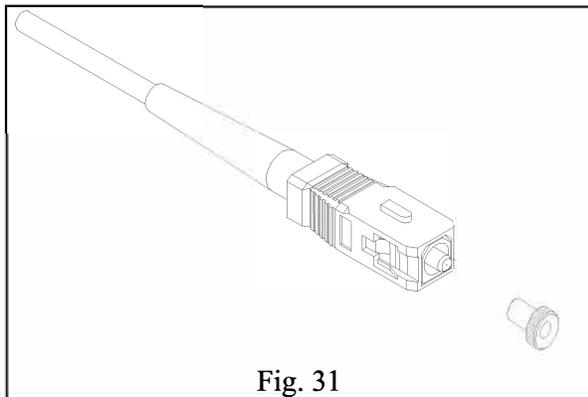

Fig. 31
Step 18 Carefully and thoroughly clean the optical contact with a lens tissue and isopropyl alcohol and cover the connector with the dust cap. See Fig. 31